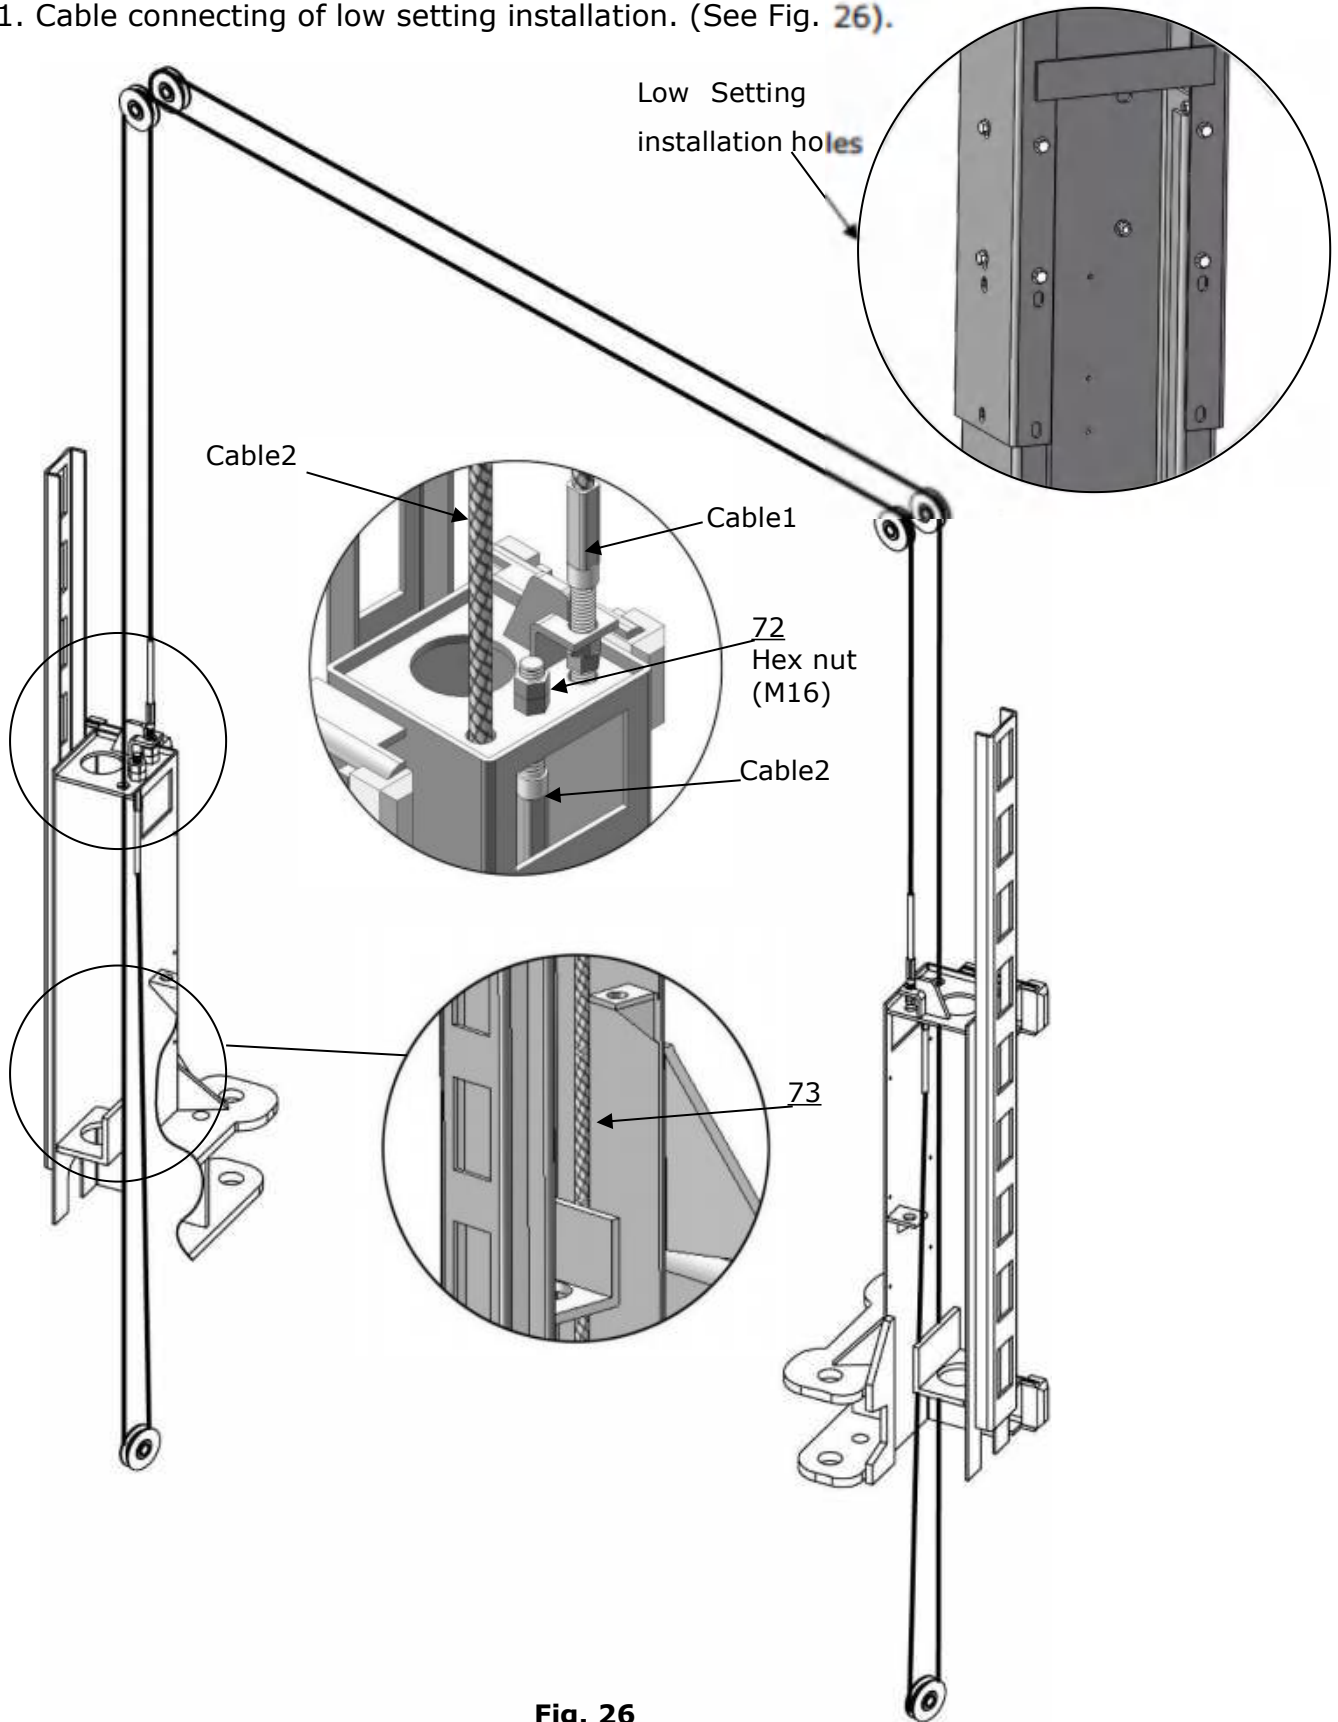

Fig. 26
1. Cable connecting of low setting installation. (See Fig. 26).